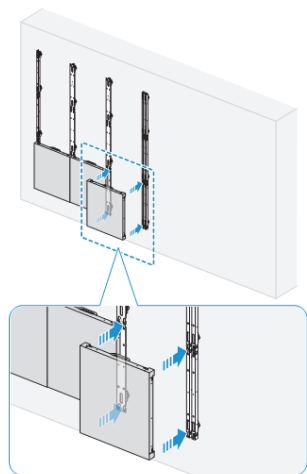

Fig6. Install cabinets
- ⑤ After installing Bracket Center, install cabinets on the bottom line.. [Fig.6]